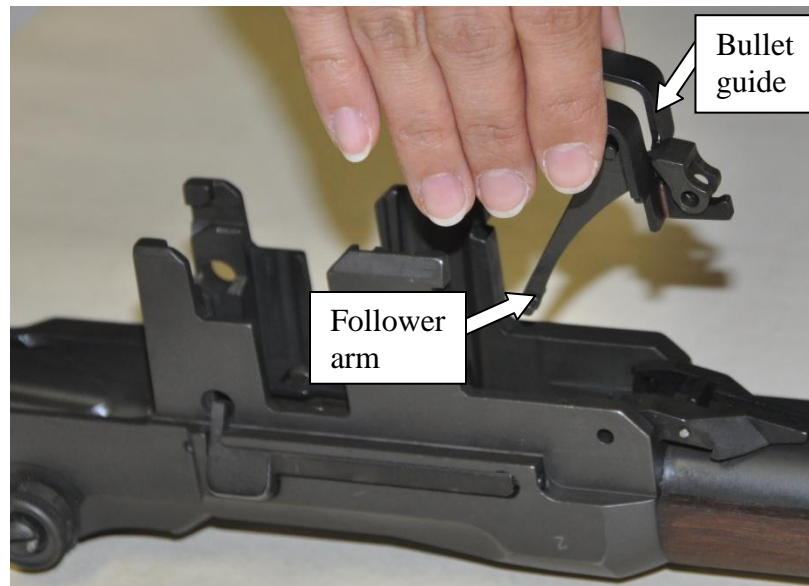
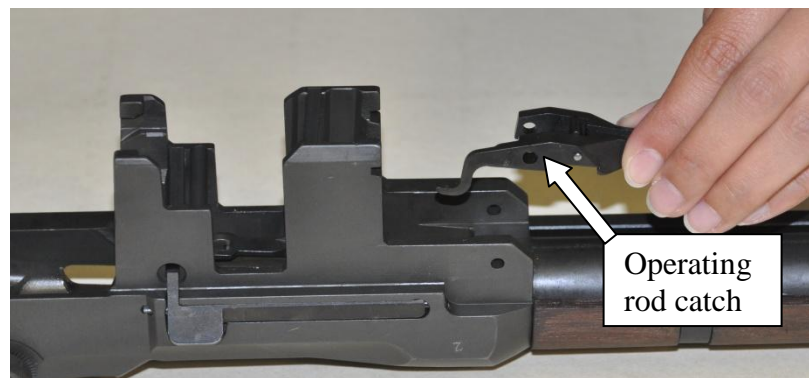

Figure 16. Bullet guide and follower arm removal
Figure 17. Operating rod catch removal
- Grasp the bullet guide and follower arm and lift them out of the receiver (fig 16). Then lift the operating rod catch and lift it out of the receiver (fig 17).